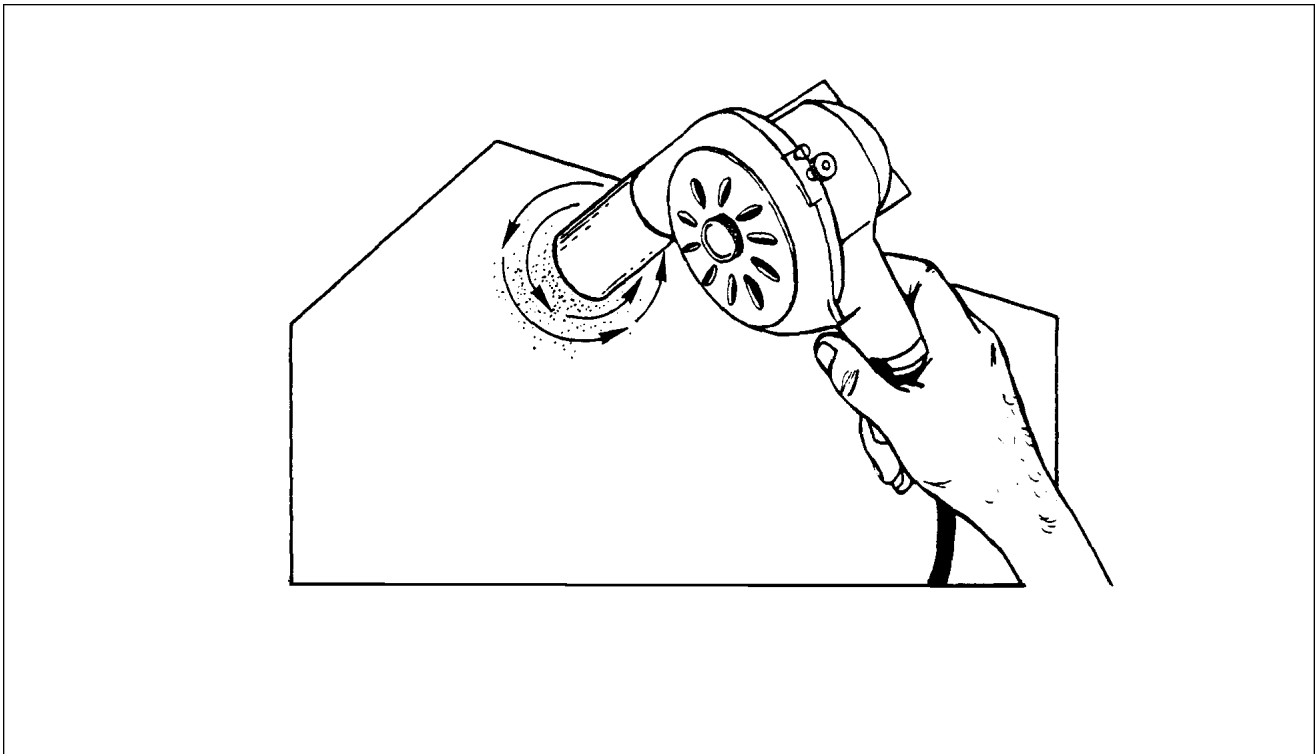

Figure 4-14. Surfaces Scratches, Abrasions or Ground-In Dirt
- b. Surface scratches, Abrasions or Ground-in-Dirt: (Refer to Figure 4-14.)